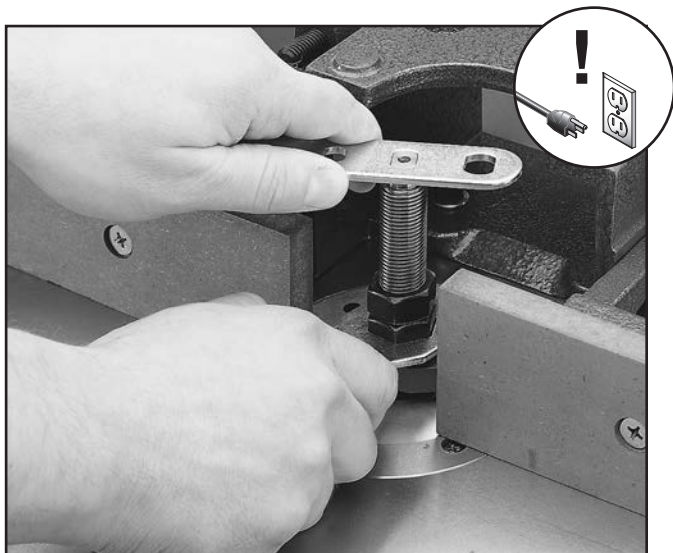

Figure 36. Tightening spindle nuts.
7. Tighten the nuts while holding the spindle stationary. Use a wrench on the notches at the top of the spindle for leverage, as shown in **Figure 36**.